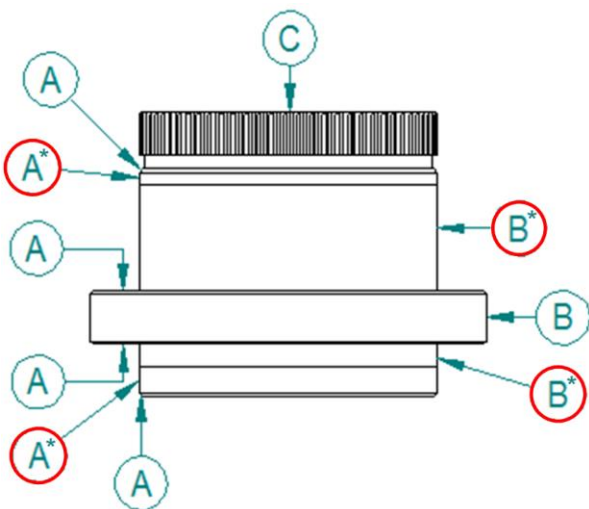

Figure 11 - Splined Output Sleeve - Important Surfaces
- An anti-friction compound containing molybdenum disulphide, such as MI-Setral-9M should be applied to the faces marked with '*' and highlighted in red in figure 11, before inserting the output sleeve back into the gearbox. For clarification on the suitability of an anti-friction compound, please contact Rotork Gears.